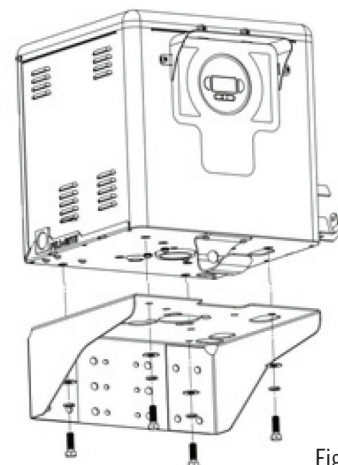

Figure 1
3. Place dispenser on mounting plate or pedestal; using the 4 – 1/2 x13 screws, and grommet washers, attach the dispenser securely to the mounting surface through the 4 holes located in bottom of the dispenser cabinet base (Figure 1).